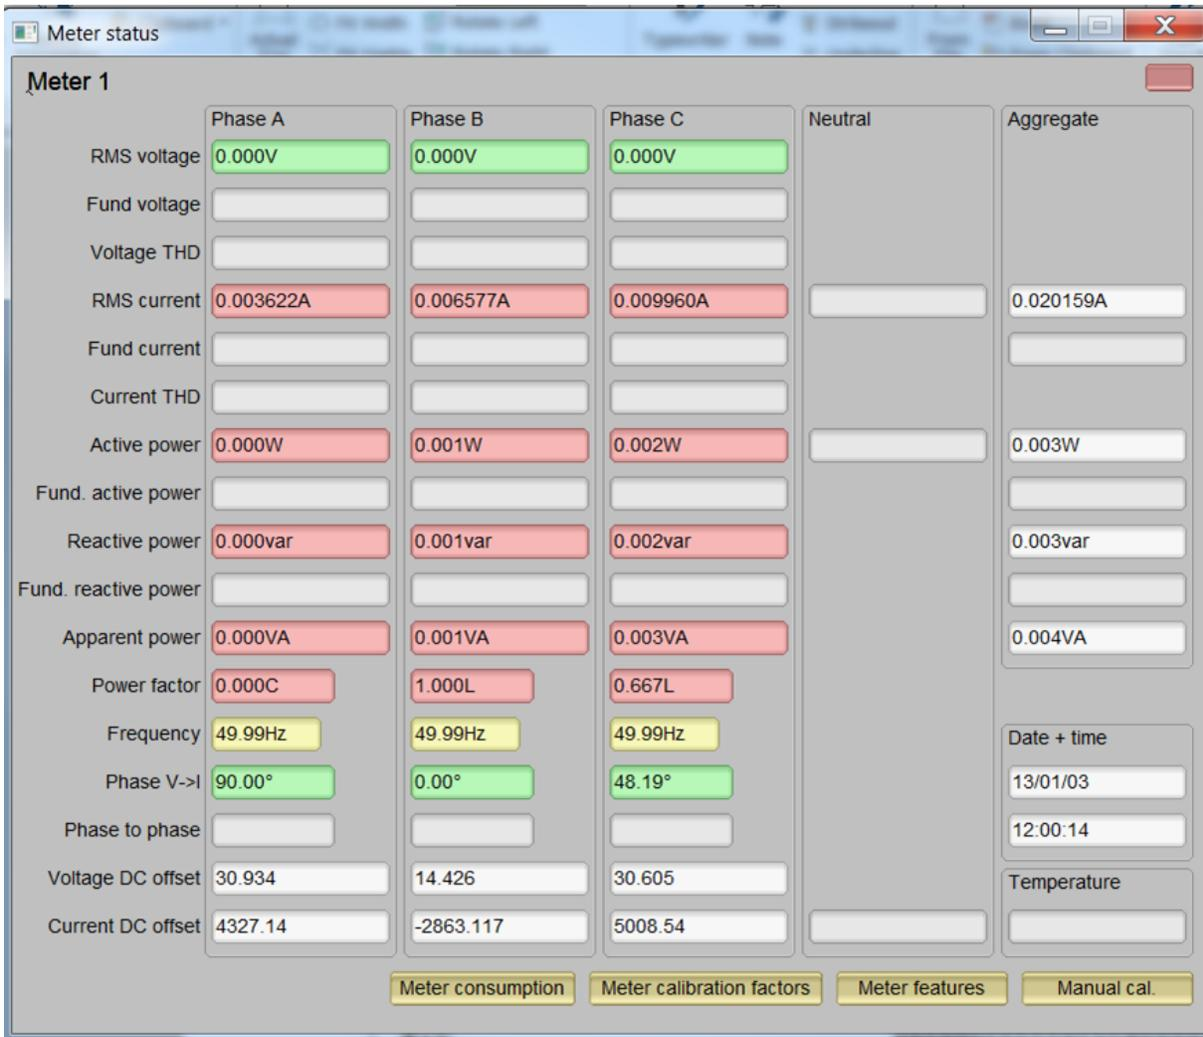

Figure 28. Results Window (Snapshot of GUI Screen)
5. If the GUI connects properly to the measurement module, the top-left button is green (specified as "Comms"). If experiencing problems with connections, or if the code is not configured correctly, the button is red (see Figure 28).